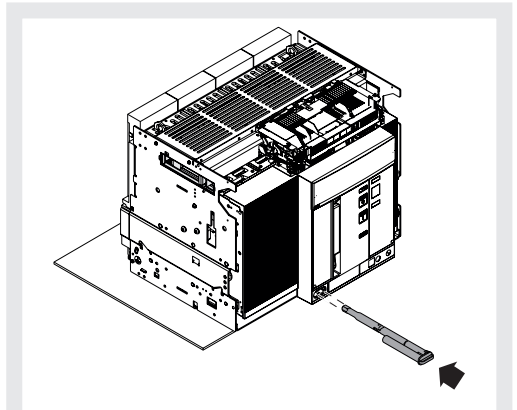

Figure 47
13. Replace the crank in its housing See Figure 47.